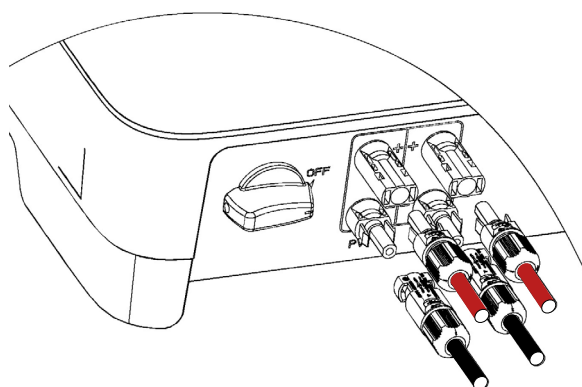

Fig. 29. Connecting the DC input terminals of units with 2 MPPTs.
4. Insert the positive and negative connectors into the respective DC input terminals of the inverter. If the terminals are properly connected, they will make a clicking sound, as shown in Fig. 29: